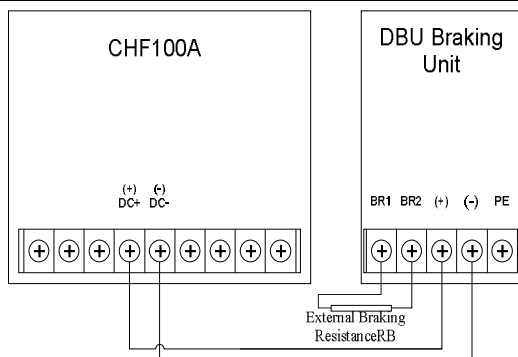

Figure B-2 Connection of braking unit
2. Connection of brake unit, please refer to figure B-2.